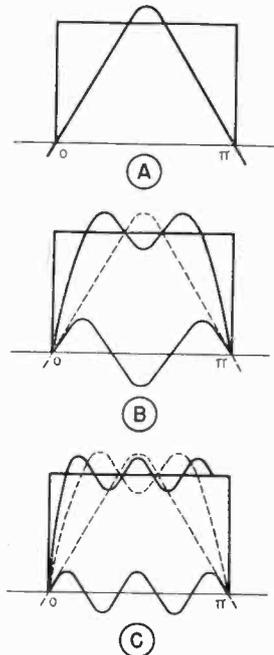

Fig. 2.
**Solution:** Let the square wave of Fig. 2 be approximated by a sine series.
In Fig. 2-A a simple sine wave ( $E = A \sin \theta$ ) gives a poor approximation; a sine wave series with a third harmonic ( $E = A \sin \theta + A/3 \sin 3\theta$ ) gives a somewhat better approximation, as in Fig. 2-B; and a sine wave series with a third and a fifth harmonic in addition to the fundamental a still better approximation, as in Fig. 2-C. The series for Fig. 2-C is: